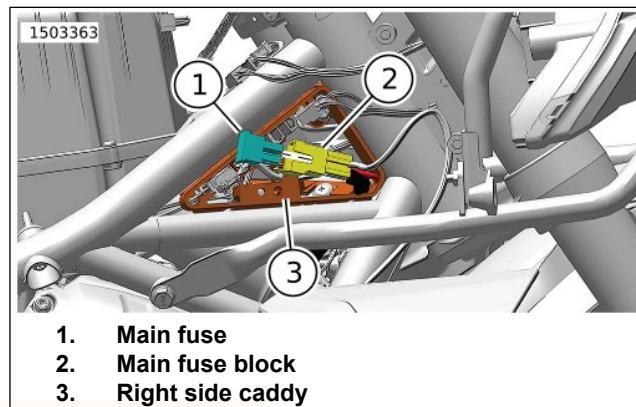

Figure 86. Main Fuse - Location
3. Remove main fuse block (2) from right side caddy (3).
4. Figure 86 Remove main fuse (1).
1. Figure 86 Install main fuse (1).
2. Install main fuse block (2) into right side caddy (3).